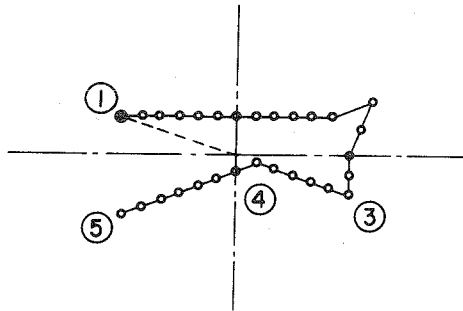

Fig. 7
Step 28 Move the needle using the **Forward** and **Backward** keys, and confirm that the needle entry point has been moved and the pattern after the moved point has shifted as illustrated in Fig. 7